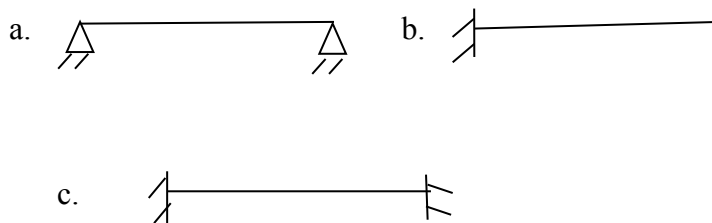

Fig.3
- 6 a) Define kinematic indeterminacy. Determine the kinematic indeterminacy of the following structures in Fig 3. (5)